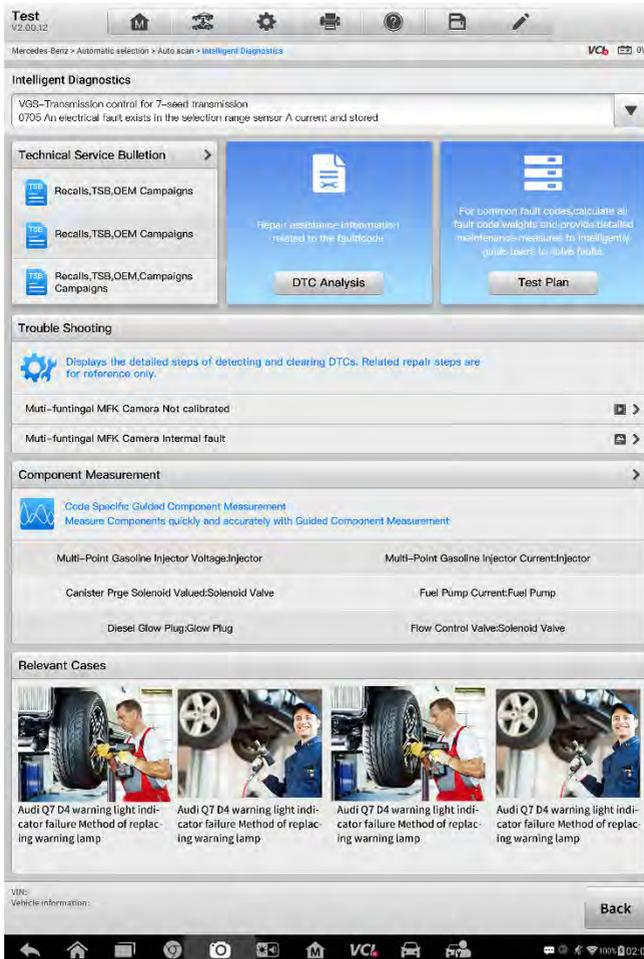

Figure 5-4 DTC Guide
3. Tap the **DTC guide** button to the right of a DTC to view the corresponding DTC guide, as shown in Figure 5-4.